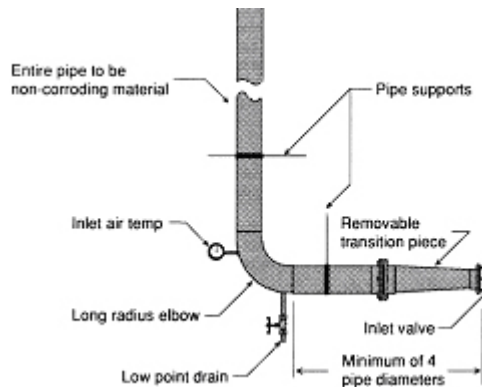

Figure 5.3
This pipe should be sized to minimize pressure drop. See general arrangement drawing for minimum pipe diameter. The inlet pipe should be suitably flanged so that it may be cleaned in sections. Figure 5.3 illustrates the general requirements for the inlet piping. Where possible, there should be a straight run of pipe approximately four (4) pipe diameters long between the compressor and long sweep elbow. Transitions in pipe diameters will be required and these transitions should be gradual. Any horizontal run of pipe should be installed such that any condensation in the piping will run away from the compressor and form in a low point in the piping. Install a drain valve in this low point to remove the moisture.